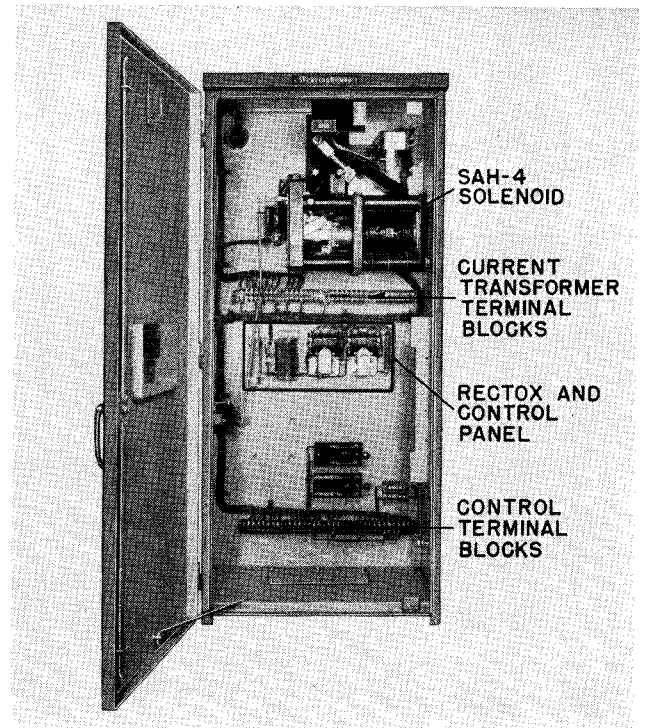

FIG. 8. Mechanism Housing Assembly
3. Swing out relay panel, if one is included, and place hand closing lever in position to close the breaker. (See Figs. 8 and 12).